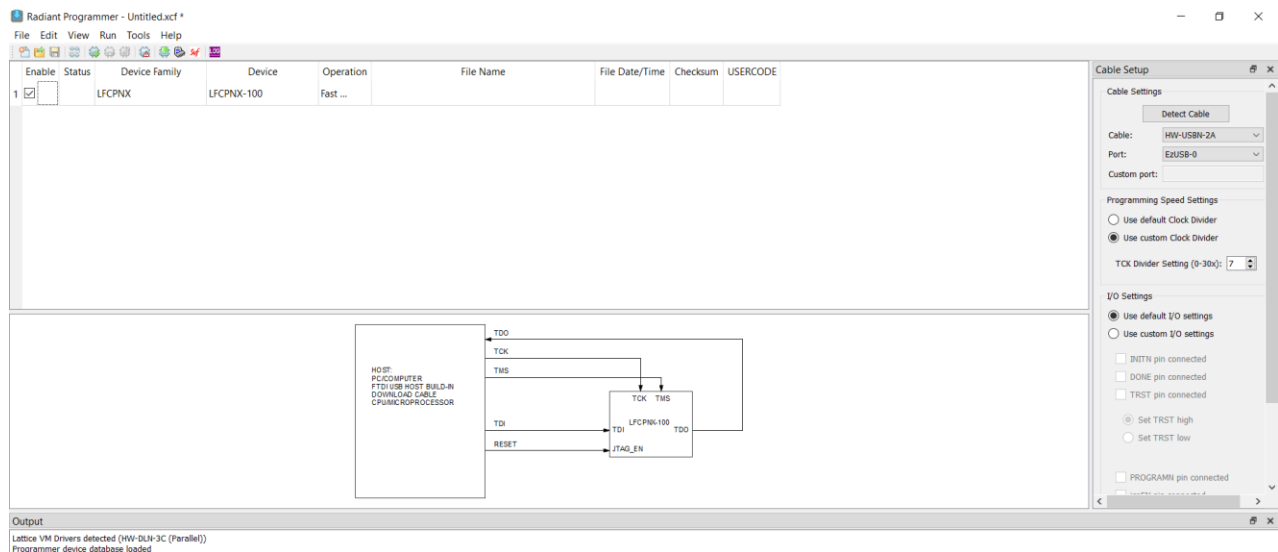

Figure C.3. Radiant Programmer - Device Selection
4. In the Radiant Programmer, select **LFCPNX** for **Device Family** and **LFCPNX-100** for **Device** or detect automatically as shown in Figure C.3.